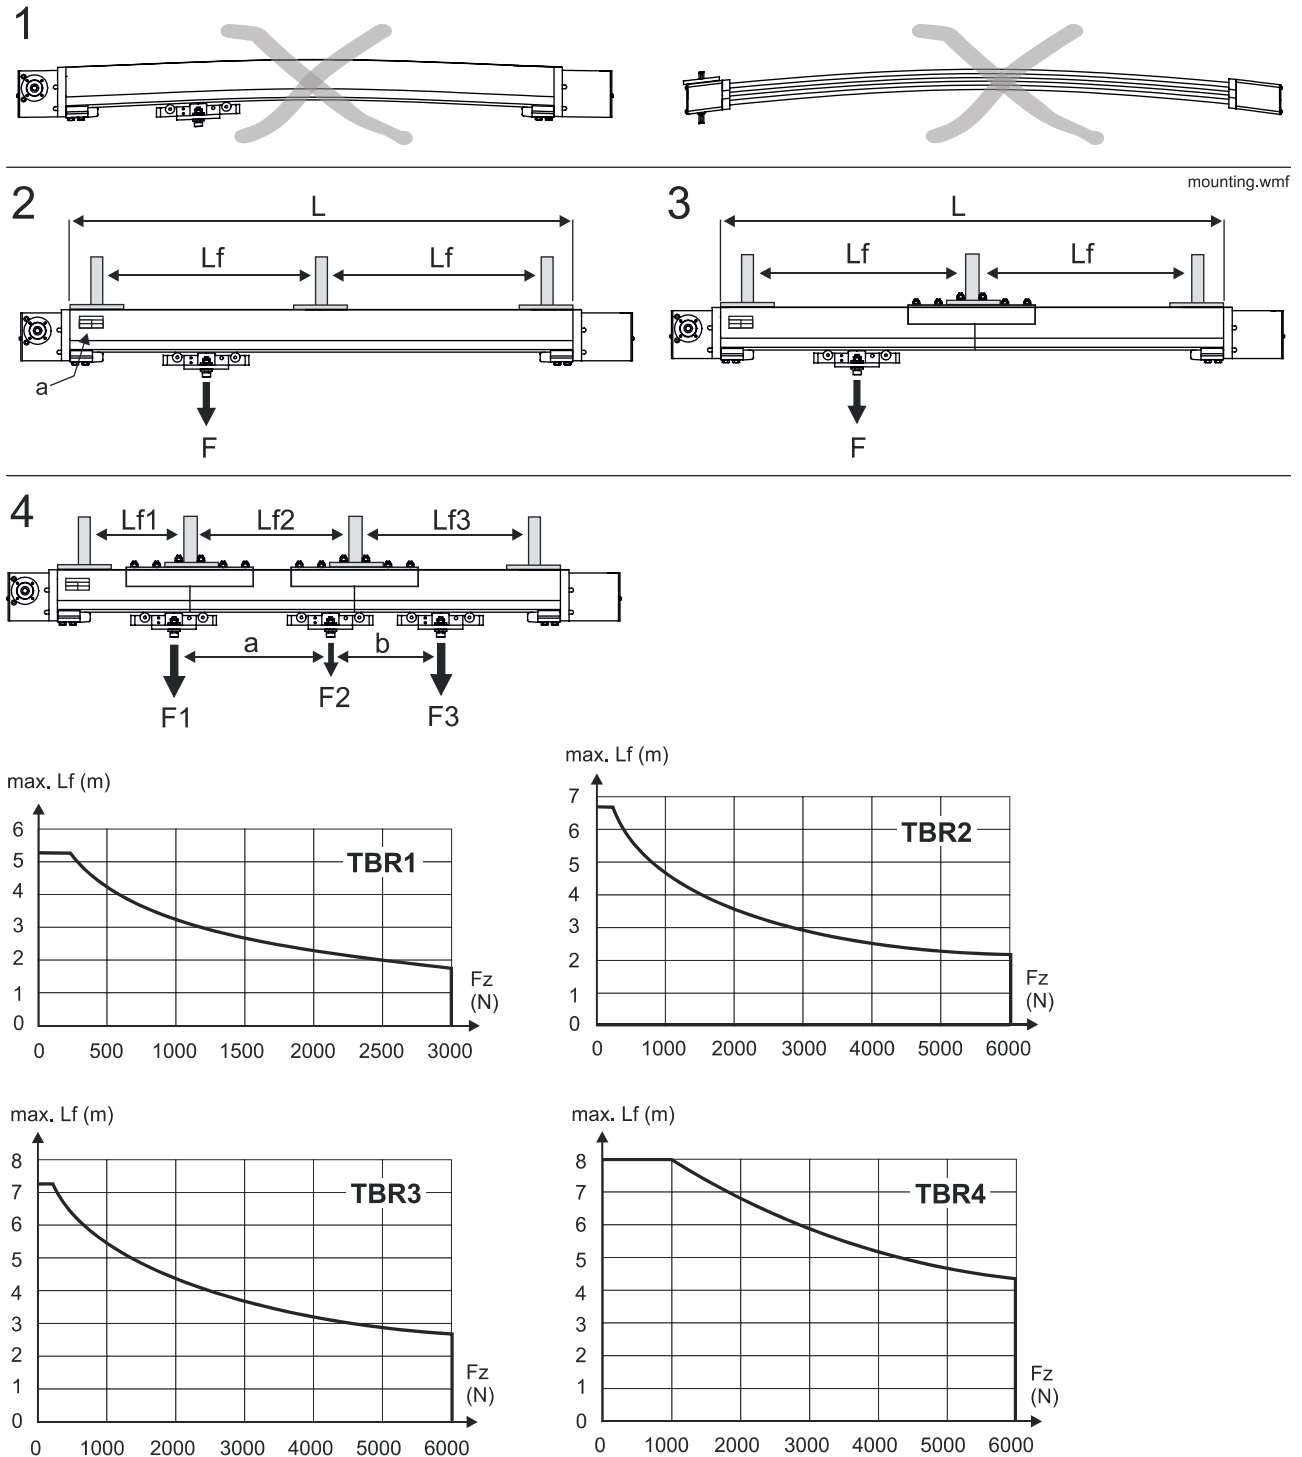

Figure 1: Installation of Tollobelt
Feel free to contact Tollo Linear if there are any doubts as to the type or if you have any other questions. When you do so please state the manufacturing number and the type designation of the Tollobelt, see figure 1.
Order length (see measure L in figure 1) in cm.....0000 – 9999 or Sequential number at custom design, M + sequential number.....M000 – M999
- Follow the recommended service intervals. Replace defective parts immediately. Only use parts of the same make and type as original. Ordering data can be found in the spare part lists supplied with the unit. Also state the manufacturing number of the unit (see figure 1).
^A L in meters, see figure 1